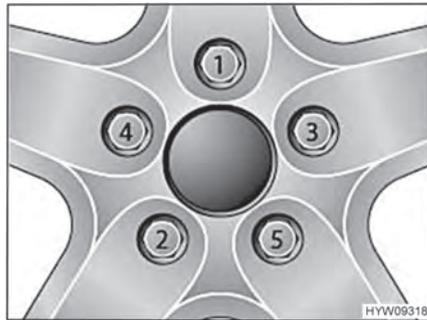

Fig. 127 Tightening the wheel nuts or wheel bolts cross-wise
- Tighten the wheel nuts or wheel bolts in the order shown in Fig. 127. In order to do this, use a torque wrench and comply with the specified tightening torque (see section 14.5).
- Check regularly that the wheel nuts or wheel bolts are firmly seated. Re-tighten the wheel nuts or wheel bolts of a changed wheel after 50 km (30 miles). While doing so, proceed in the order shown in Fig. 127.
- When using new or newly painted rims, re-tighten the wheel nuts or wheel bolts once again after approx. 1,000 to 5,000 km (600 miles to 3,000 miles). While doing so, proceed in the order shown in Fig. 127.